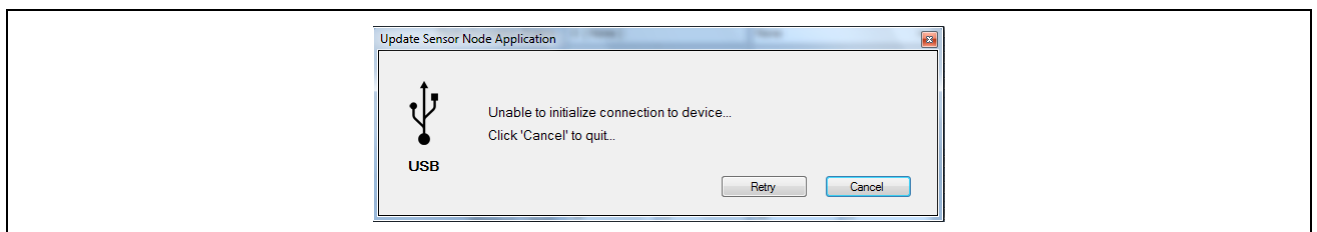

Figure 13 Unable To Initialize Connection Dialog
- 10 If the NCT is unable to connect to the sensor node for any reason, the dialog seen in Figure 13 will be seen. At this point you can click the Retry button to try again waiting at least 15 seconds between each retry.